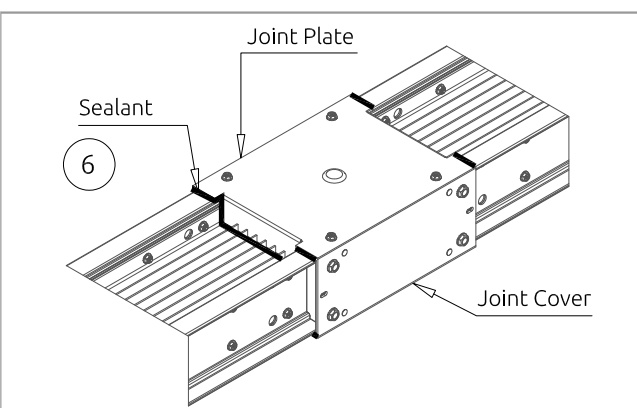

Figure 8.3 Water resistant / Outdoor joint
5. Assemble the joint plate as shown in Figure 8.3
6. Apply sealant to enhance gasket areas as shown in figure 8.3 at both side of the joint plates.